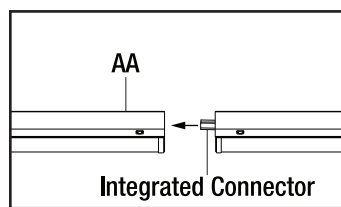
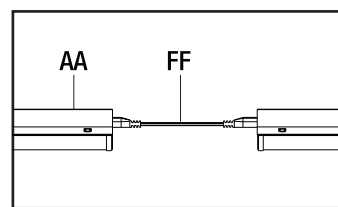

Fig. 1
Fig. 2
- ☐ Connect each additional fixture using either the linking cable (FF) or end-to-end with integrated connector on the fixture. Connect end-to-end with integrated connector on the fixture (see Fig. 1) or insert the linking cable (FF) (see Fig. 2) into the receptacle in the end of each fixture body (AA). When using the linking cable (FF), the maximum distance between two light fixtures is 12 inches.